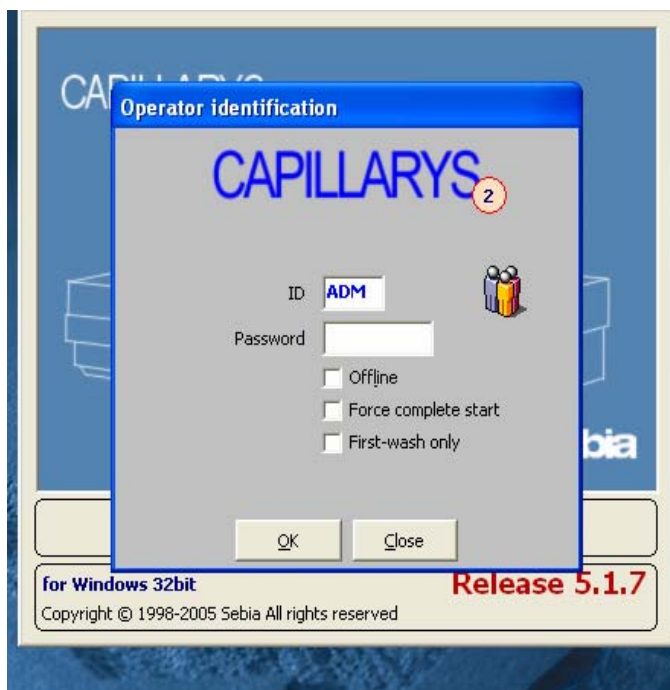

Fig 1
### **OPERATION PRINCIPLES, Fig 1.**
**Figure 1.** *The arrangement of the main components of a typical capillary electrophoresis instrument. Positive (anode) and negative (cathode) electrodes are immersed in buffer reservoirs. When a voltage is applied across the electrodes, buffer ions of different charge, i.e., anions (negative) and cations (positive), will move through the solution towards the oppositely charged electrode.*